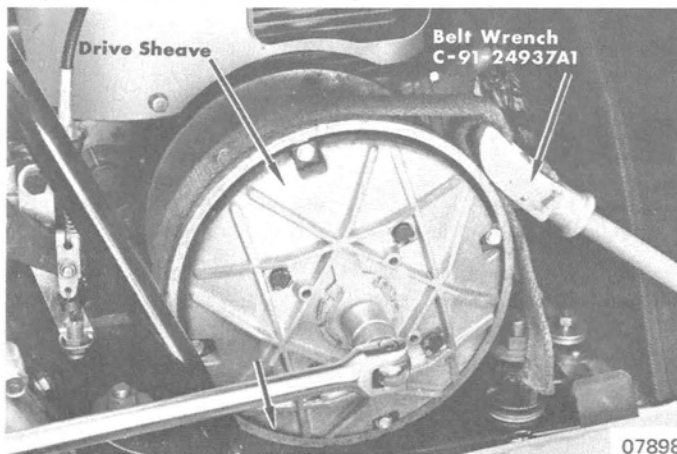

Figure 1. Drive Sheave Retaining Cap Screw Removal
3. Hold drive sheave with Belt Wrench (C-91-24937A1) and remove retaining cap screw and lockwasher. (Figure 1)